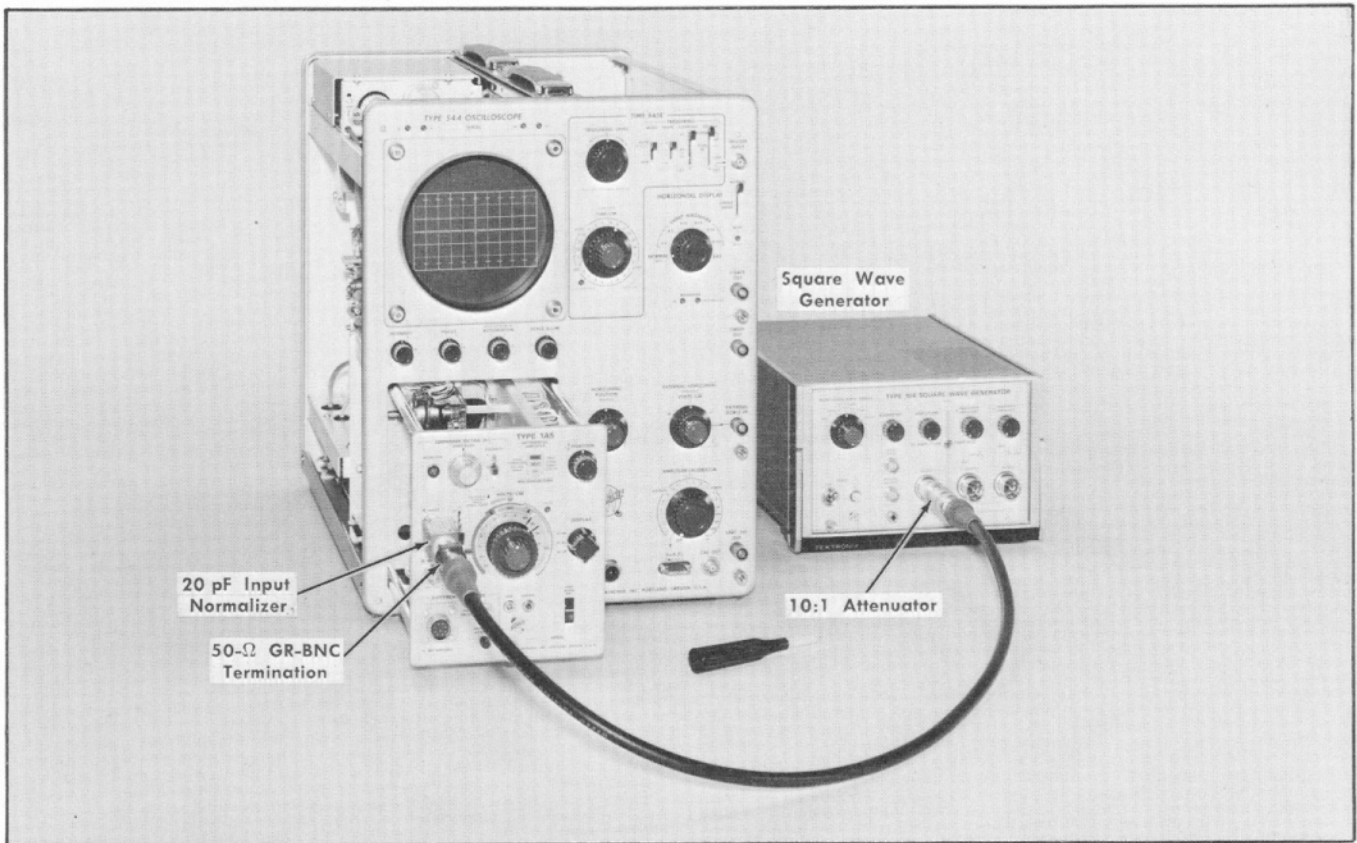
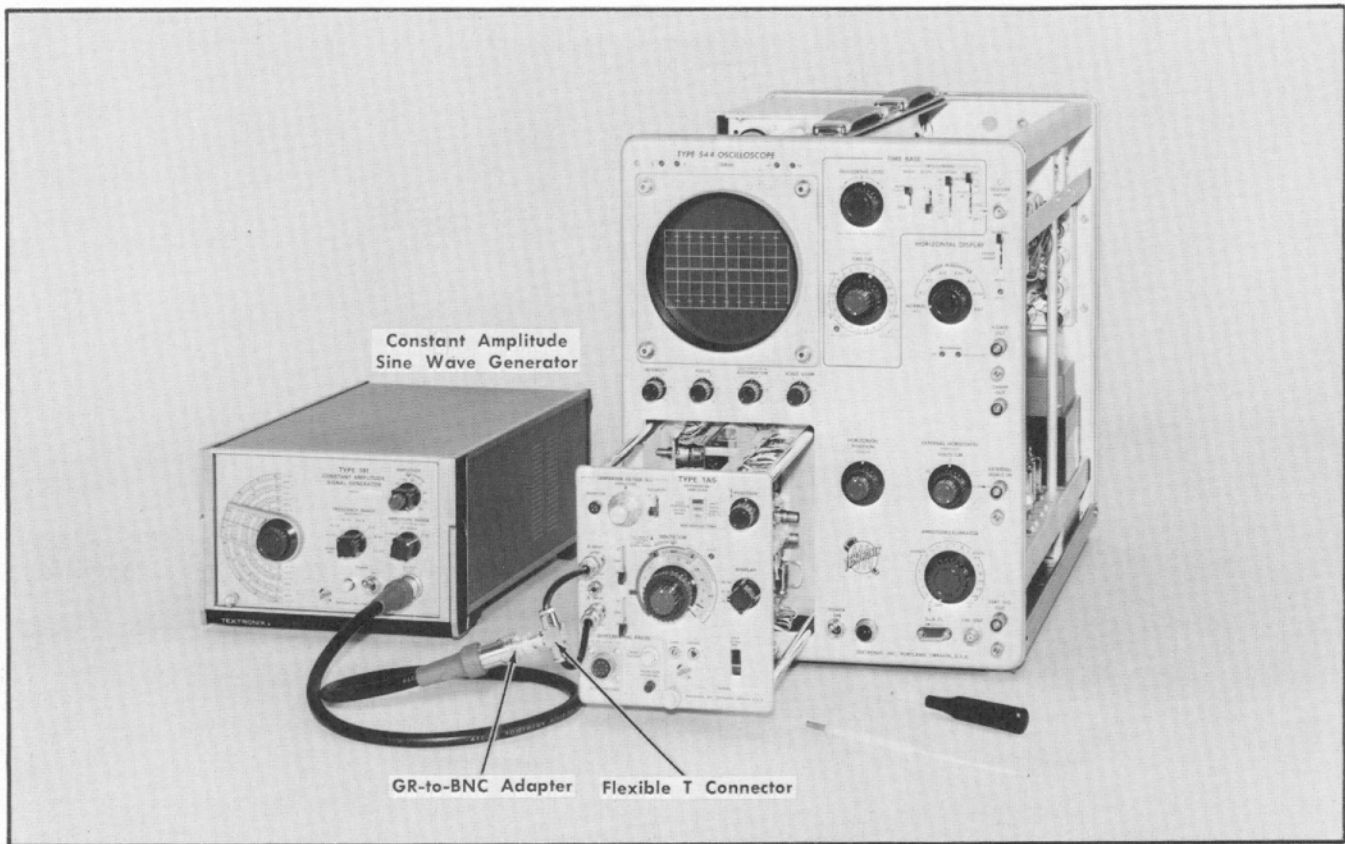
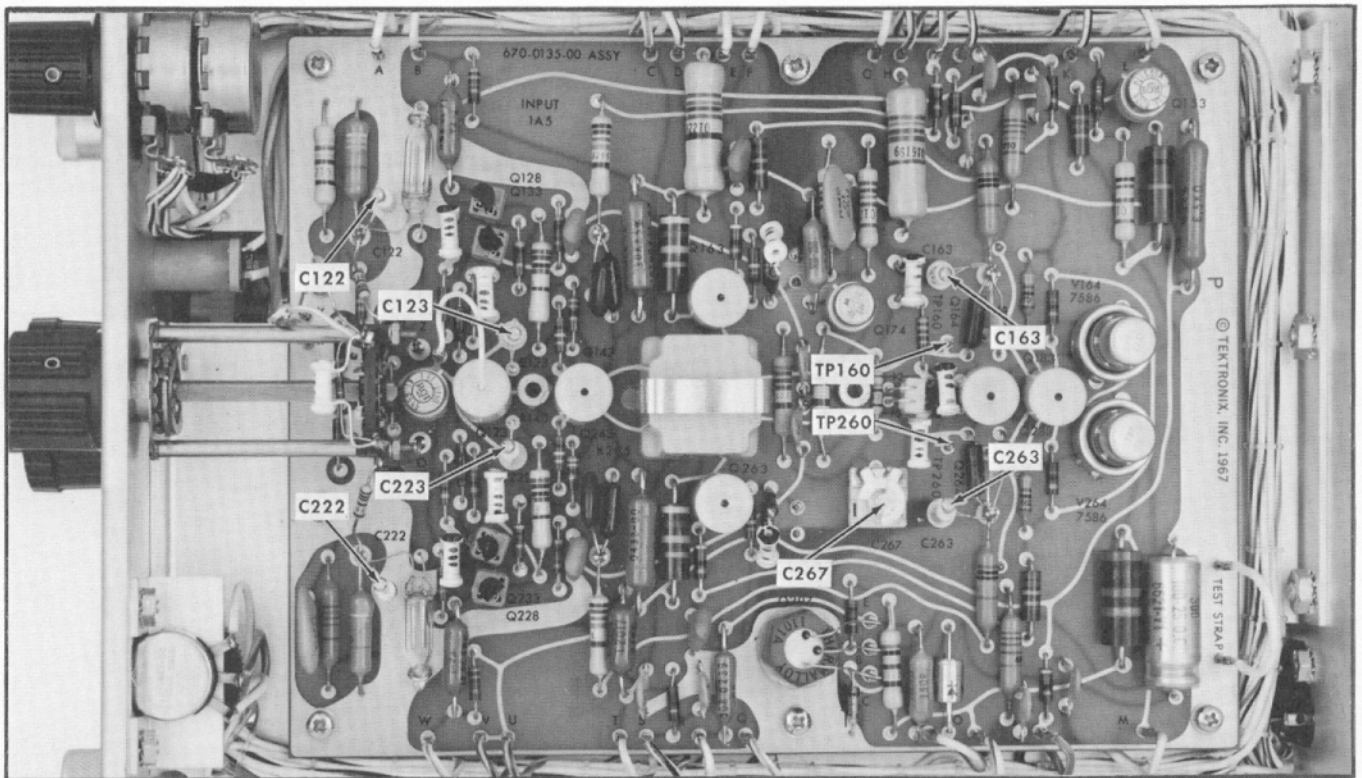

Fig. 6-15. Equipment setup for steps 14 and 16.
Fig. 6-17. Equipment setup for step 15.
Fig. 6-18. Adjustment locations for step 15.
14. Adjust ×1 Input Capacitance (C108, C208) ①
a. Equipment setup is shown in Fig. 6-15. Location of adjustments is given in Fig. 6-16 (A). Typical waveforms are shown in Fig. 6-16 (B), (C), (D) and (E).
- 20 pF Input RC Normalizer (item 17)
a. Equipment setup is shown in Fig. 6-17. Locations of adjustments and test points are shown in Fig. 6-18.
b. Using the test strap, (removed from its Type 1A5 storage location during the Preliminary Procedure), connect TP 160 to TP 260. See Fig. 6-18 for test point locations.
c. Connect the two symmetrical ends of a flexible T connector to the A and B INPUTS of the Type 1A5. Connect the center of the T connector to a GR to BNC adapter (item 12). Connect the Type 191 Constant Amplitude Signal Generator (item 4) to the GR adapter, using its 5 ns GR cable.
e. Set the VOLTS/CM switch to 1 mV. Set the POSITION control to midrange and adjust R170 (DC BAL, Fig. 6-18) as necessary to position trace at the center of the graticule.
g. ADJUST—C267 (Fig. 6-18) for minimum display amplitude (optimum common-mode rejection).
- j. Check that the POSITION control and STEP ATTEN BAL control are at midrange and adjust R170 (Fig. 6-18) to set the trace to the center of the graticule.
- m. ADJUST—C122 or C222 and C123 or C223 (Fig. 6-18) for minimum display amplitude. (1 cm or less vertical display amplitude for 10,000:1 or greater common-mode rejection ratio.)
- p. ADJUST—Either C163 or C263 (Fig. 6-18) for minimum display amplitude. 1 cm or less vertical display amplitude for 1000:1 or greater common-mode rejection.
16. Adjust Attenuator Input Capacitance ❶
a. Equipment setup is shown in Fig. 6-15 except as follows: